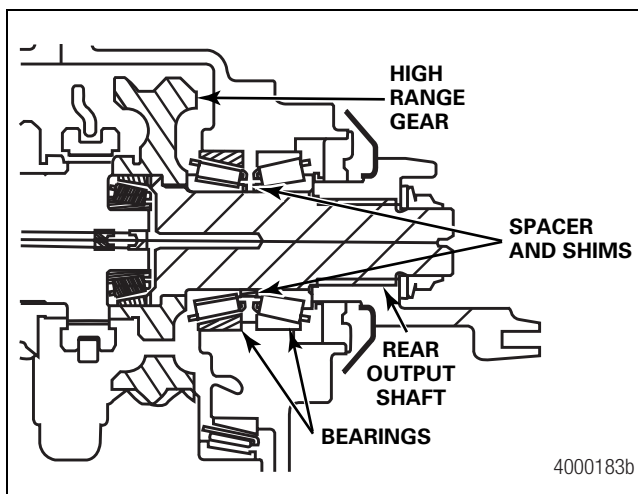

Figure 6.24
1. If the rear output shaft and cover assembly has been disassembled, install the rear output shaft, bearing cones, spacer and shims, yoke into the rear cover. Temporarily tighten the yoke nut to 700-900 lb-ft (949-1220 N•m). Place the rear cover on the bench to measure bearing end play. Refer to the bearing cup and shim installation procedures in this section. Figure 6.24.